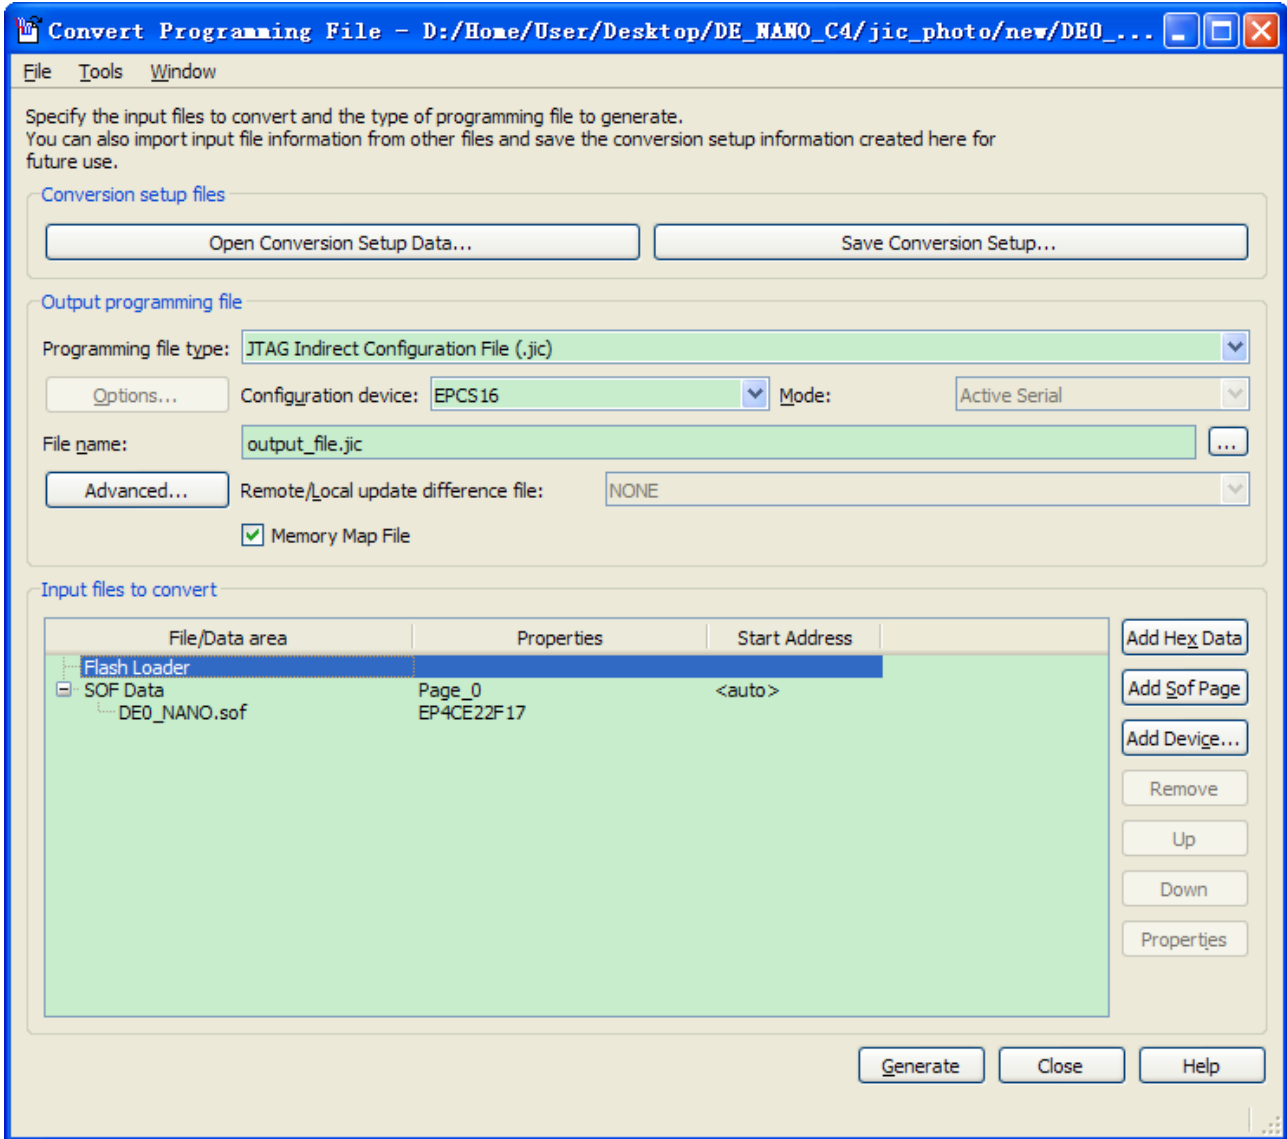

Figure A2 Highlight Flash Loader
9. Highlight the Flash Loader and click **Add Device**. See Figure A2.